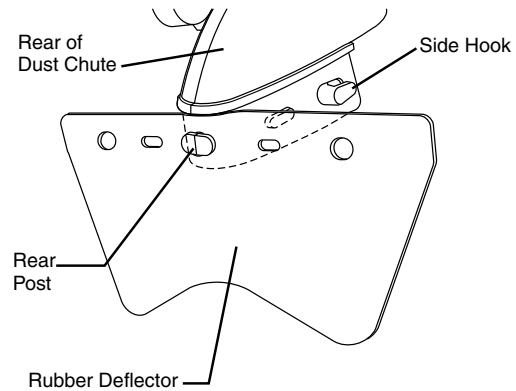

Figure 9. Attaching Rubber Deflector on Rear Post
**Removing Deflector** – Pull one of the deflector's tabs to the front and then sideways until it comes off one of the dust chute's side hooks (see Figure 9). Unhook the opposite side. Then unhook the deflector from the rear post of the chute by pulling and stretching until it is free. NOTE: Removing the deflector lowers dust collection capability.